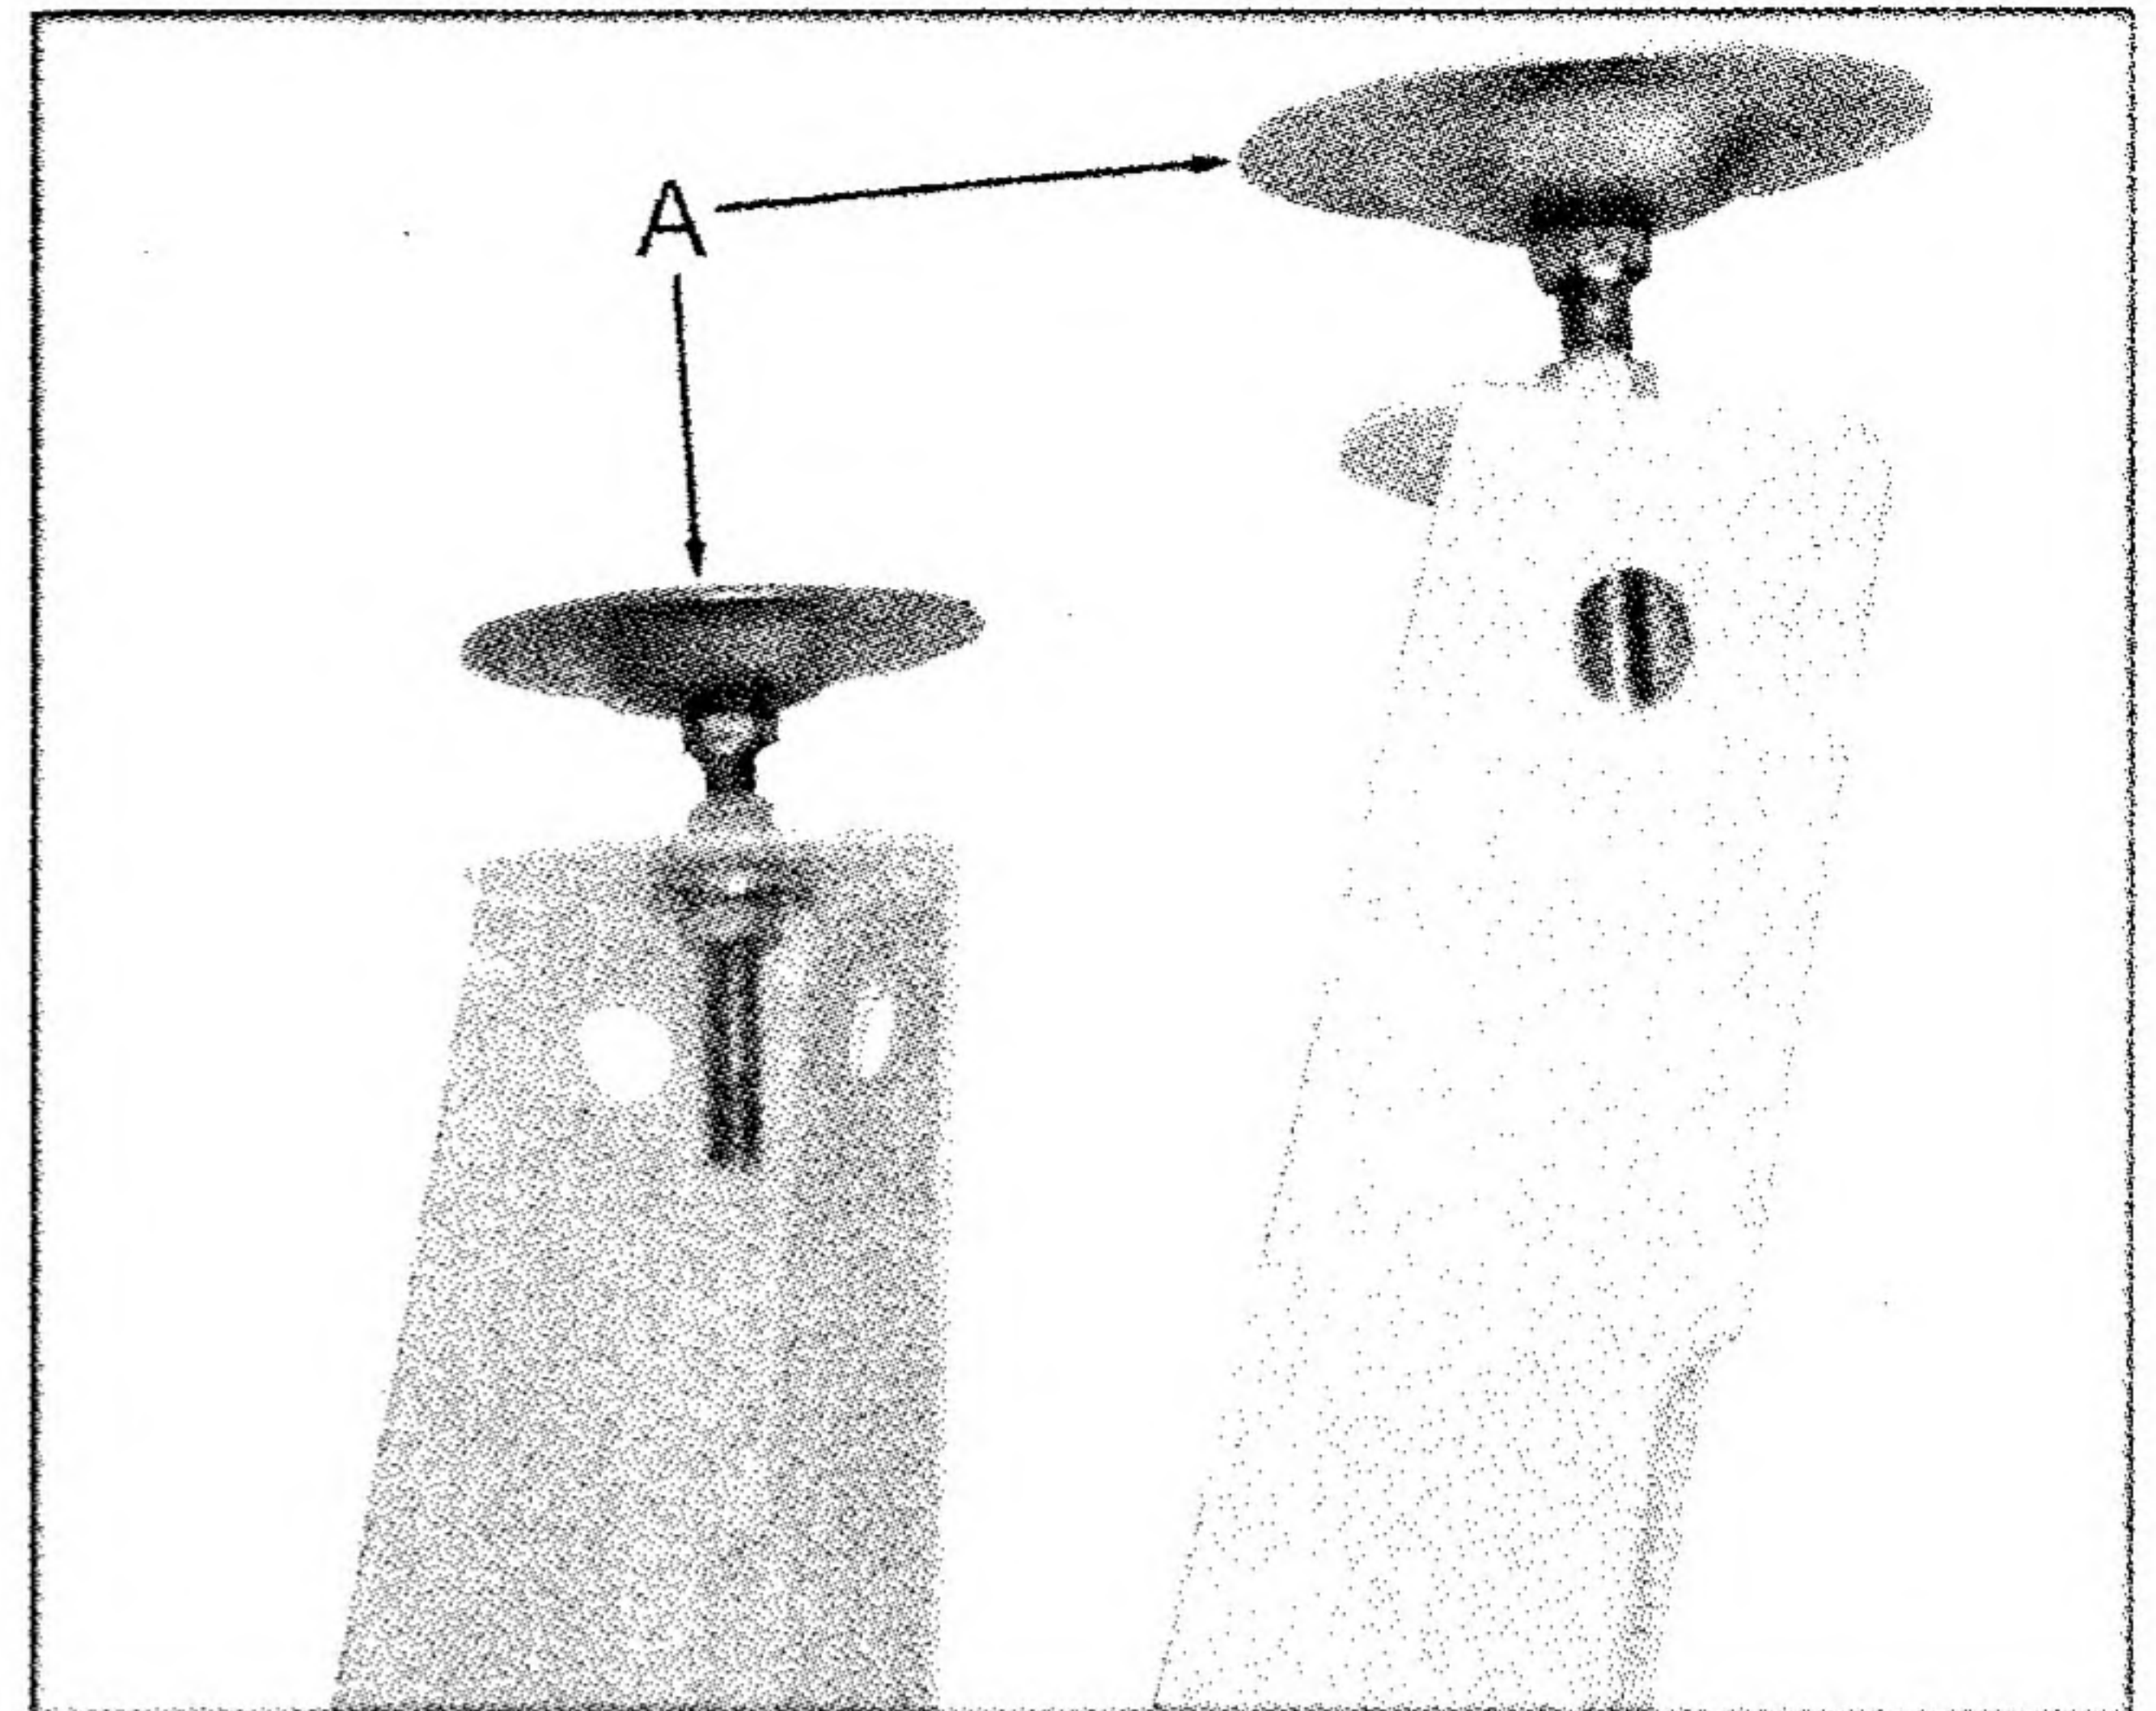

Fig. 2
7. Attach the adjustable feet (A, Fig. 2) to the legs opposite of the motor, using the provided hardware.